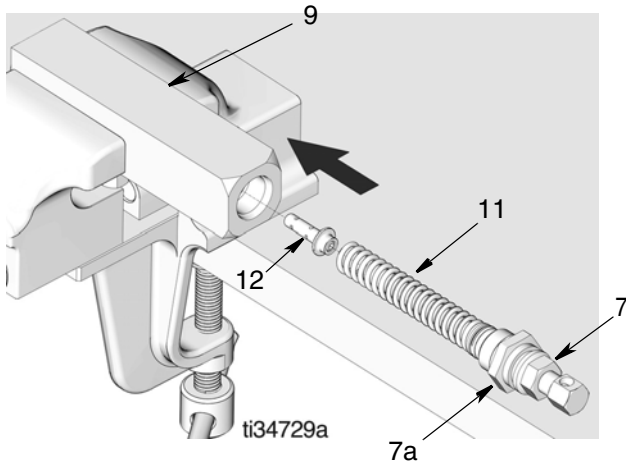

FIG. 14
8. Install spring (11) over the end of the indicator pin (8) (FIG. 14).
9. Install plunger/ poppet (12) into the end of the spring (11) (FIG. 14).
10. Install displacement piston assembly (7) in injector body (9) (FIG. 14). Secure a deep well 15/16 inch (24 mm) socket over hex (7a) and turn it clockwise to tighten fitting. Torque to 70 ft-lbs (94.9 N•m).